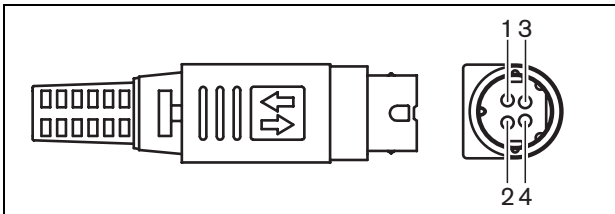

figure 41.5: Kycon KPP-4P plug, connection
You can connect an external power supply to the external power supply socket of the network splitter. The network splitter is supplied with a Kycon KPP-4P plug (refer to figure 41.5), which you can connect to this socket. The external power supply only supplies power to the connected tap-offs.
- 1 Attach the Strain Relief (B) to the Plastic Enclosure (C).
- 2 Pull the Cable (A) through the Strain Relief (B)/Plastic Enclosure (C) assembly, Metal Spring (D) and Plastic Guide Ring (E).
- 3 Attach the ends of the cable wires to the solder cups on Pin Mold (G) (refer to figure 41.5 and table 41.3).
- 4 Correctly align the Pin Mold (G) with the Lower Metal Sleeve (H). The slotted sections on the sides of the Pin Mold (G) must align with the slotted cut-outs on the Lower Metal Sleeve (H). The 3 semi-circular notches around the perimeter of the Pin Mold (G) must line up with the 3 metal tabs inside the Lower Metal Sleeve (H).
- 5 Push the Pin Mold (G) into the Lower Metal Sleeve (H) until they lock.
- 6 Push the three metal tabs on the Lower Metal Sleeve (H) into the notches in the Pin Mold (G).
- 7 Crimp the 'U' section of the Lower Metal Sleeve (H) onto the Cable (A).
- 8 Attach the Plastic Ring Guide (E) to the Lower Metal Sleeve (H) and engage the plastic arms into the correct slots in the sides of the sleeve.
- 9 Attach the Top Metal Cover (F) to Lower Metal Sleeve (H). Be sure to align all tabs. Make sure that the cover is attached correctly.
- 10 Push the Metal Spring (D) to the Top Metal Cover (F)/Lower Metal Sleeve (H) assembly. This helps to hold the assembly together.
- 11 Push the Strain Relief (B)/Plastic Enclosure (C) assembly to the Top Metal Cover (F)/Lower Metal Sleeve (H) assembly. Align the two assemblies as shown in the drawing. Make sure that the Metal Spring (D) stays in place and does not bend during assembly. A large force can be necessary to attach the two assemblies together.
- 12 Make sure that the Strain Relief (B)/Plastic Enclosure (C) assembly is locked to the Top Metal Cover (F)/Lower Metal Sleeve (H) assembly. The two assemblies should not be able to be pulled apart.
- 13 Align the new assembly with the Plastic Coupling (I) shown in the drawing. Push assembly into Plastic Coupling (I) until it locks to the Plastic Coupling. The connector assembly is complete.